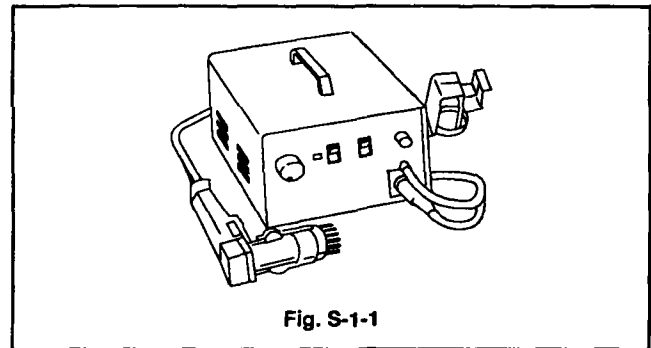

Fig. S-1-1
- Prepare the HOT - AIR FLAT PACK - IC DESOLDERING MACHINE, then apply hot air to Flat Pack - IC (about 5~6 seconds). (Fig. S-1-1)